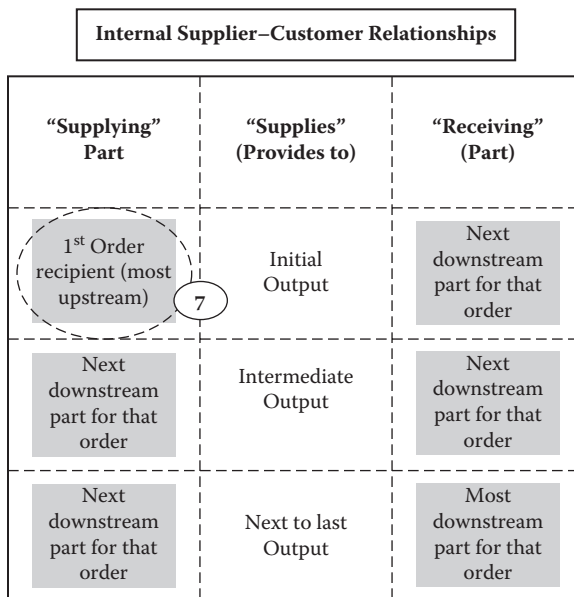

Figure 4.12 Typical *internal* supplier–customer relationships for Order to Delivery.
7. Define the *internal* supplier–customer relationships (Figure 4.12).